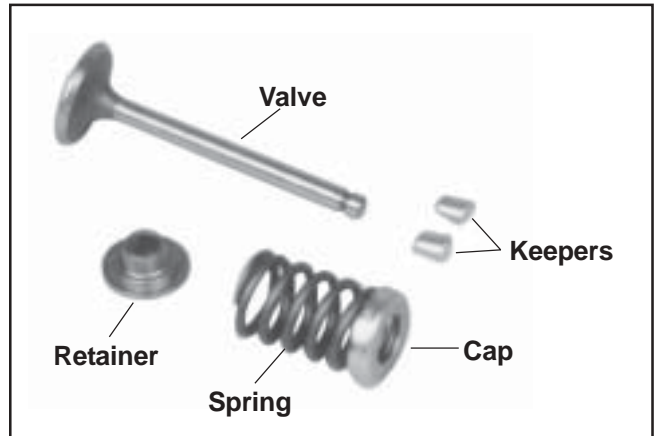

Figure 9-47. Valve Components.
3. Once the valve spring is compressed, remove the following items. See Figures 9-47 and 9-48: